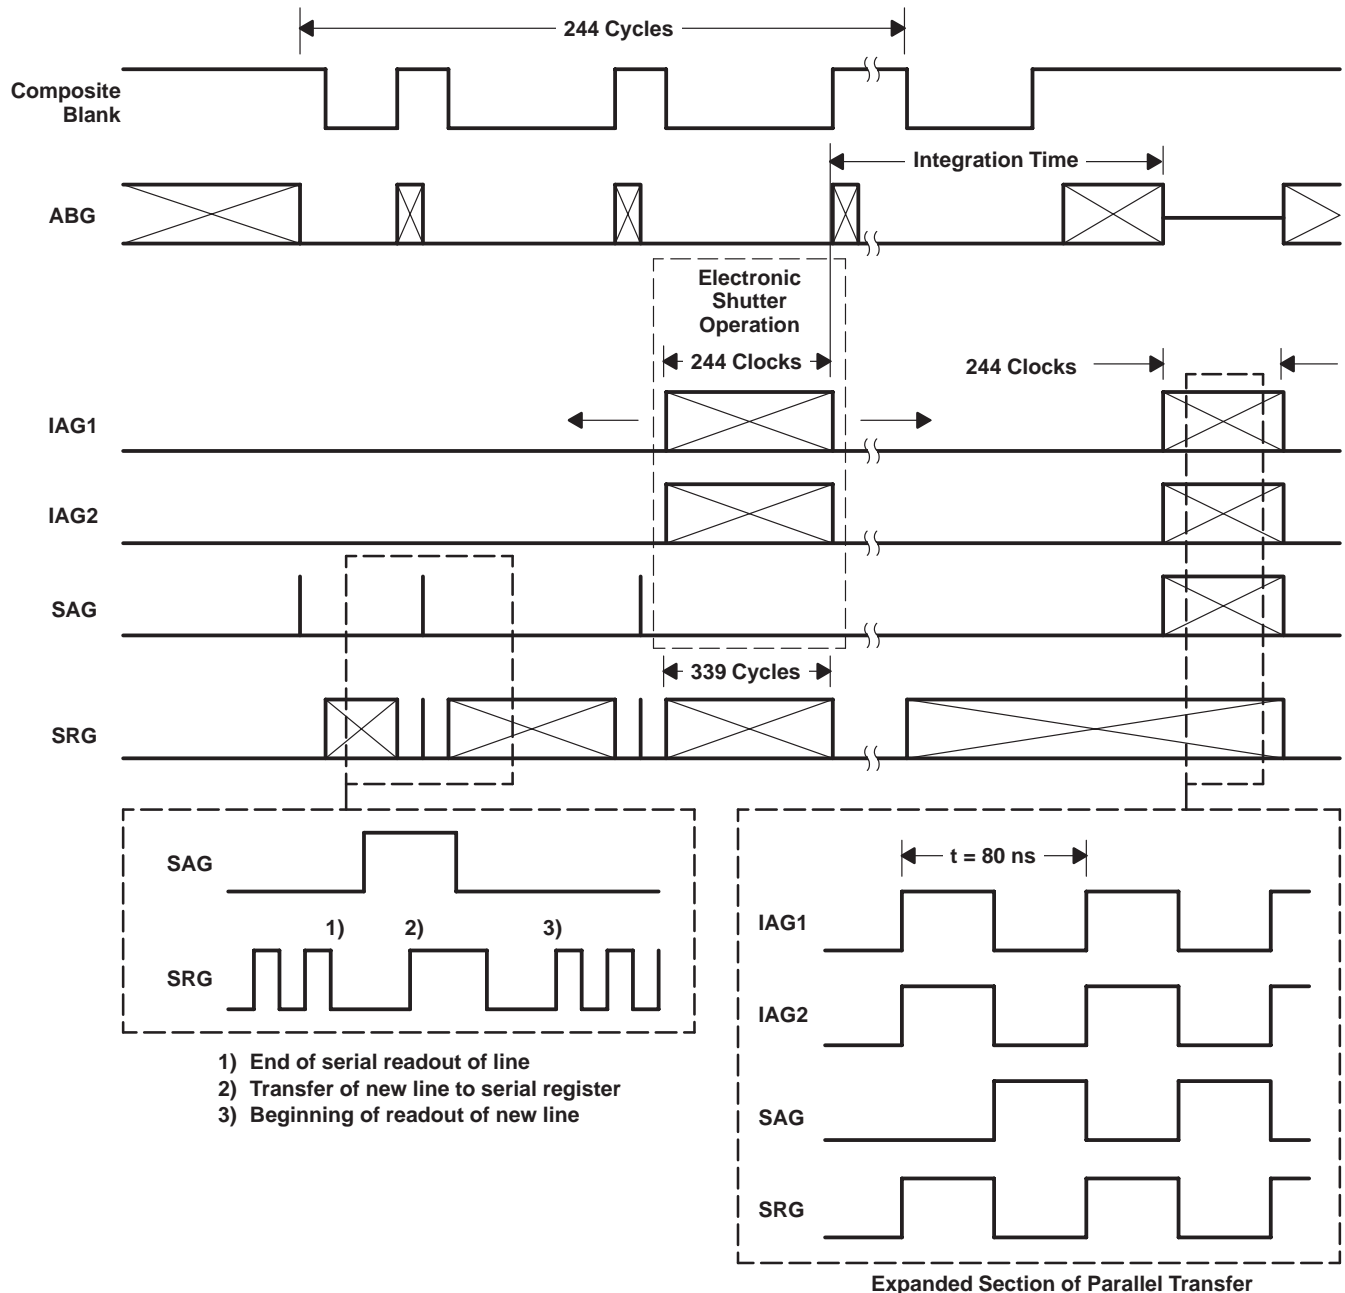

Figure 3. Timing Diagram
After exposure, the image-area charge packets are transferred through the image-clear line to the storage area. The stored charge is then transferred line by line into the serial register for readout. Figure 3 illustrates the timing to (1) transfer the image to the storage area and (2) to transfer each line from the storage area to the serial register.
After each line is clocked into the serial register, it is read out pixel by pixel. Figure 3 illustrates the serial-register clock sequence.